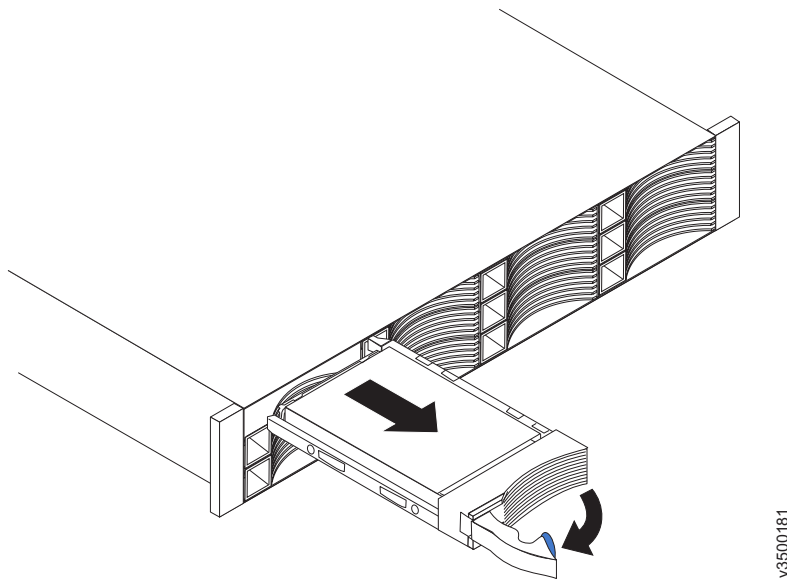

Figure 94. Unlocking and removing a 3.5-inch drive from its slot
5. Pull out the tray handle to the open position (see Figure 94 on page 323).